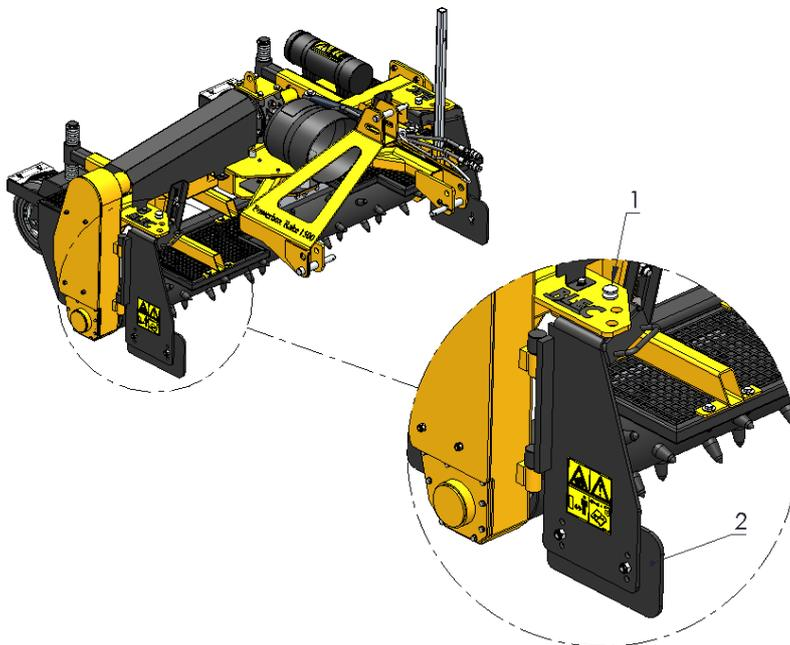

Figure 5
3. Both side plates **(2)** must be placed in such a manner that they point straight forward. This can be done by placing the locking pins **(1)** in the rear hole (Figure 5).